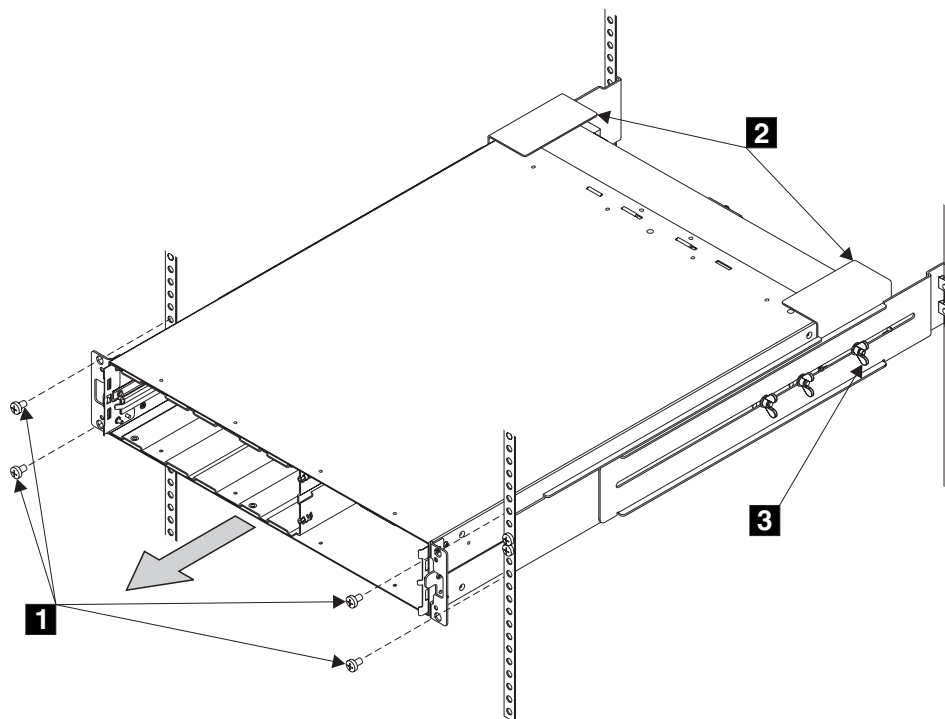

Figure 229. Removing the 2145 uninterruptible power supply
7. At the front of the 2145 UPS, unscrew the mounting screws (**1** in Figure 229 on page 503).